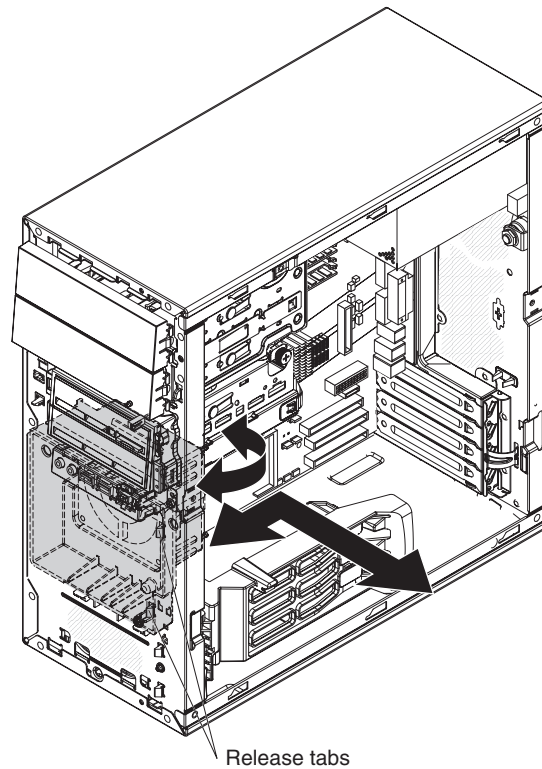

Figure 18. Installing the fan housing
3. Press the two retention tabs at the top of the fan housing through the openings in the front of the computer until they lock securely (see Figure 18).